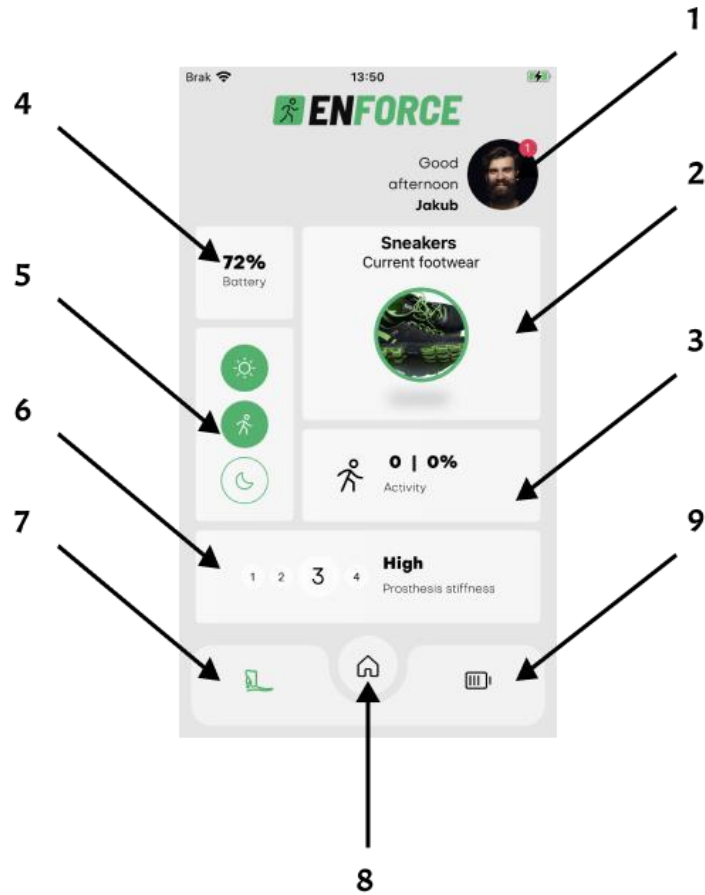
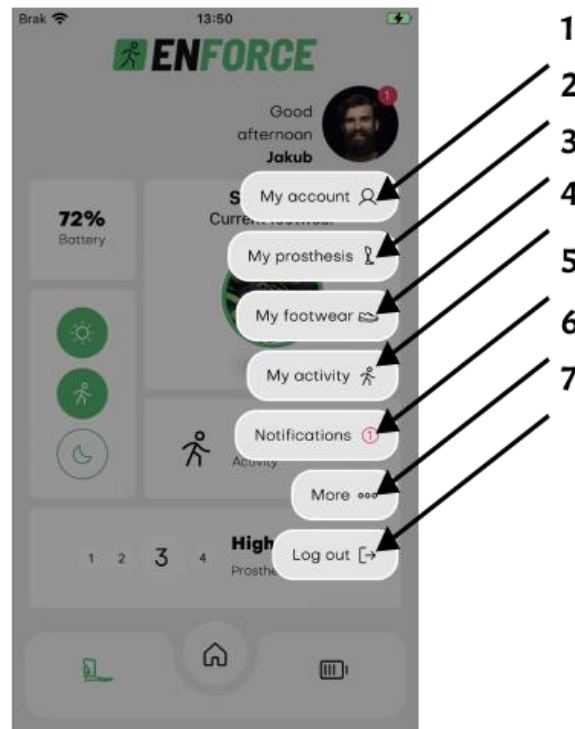

Figure 8: Main screen.
Figure 9: Side menu.
A daily step target can be set in the app. To do this, navigate to the statistics screen by selecting the item My Activity in the drop-down side menu (4, *Figure 9*) after clicking on the avatar (1, *Figure 8*). Another way to access this screen is by selecting a panel (3, *Figure 8*). While on the statistics screen, to edit a target, select the icon (1), as shown in *Figure 23a*. The screen in *Figure 23b* displays the current daily step target (2), the target change panel (3), and the save changes button (4).
You will then receive a message about the success or failure of the test. If any of the tests fail, please contact us. Via "Service Requests". To submit a service request via the application, click on the Side Menu (*Figure 9*) and then on the "More" section (*Figure 10*).